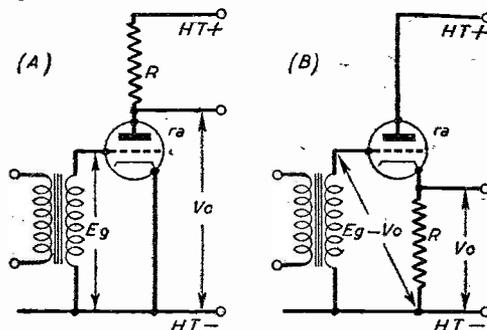

Fig. 1.—A, ordinary amplifying stage; B, cathode follower.
AN instructive experiment can be carried out very simply by changing the position of the load resistance R in an ordinary amplifying stage, Fig. 1 (A), and insert it in the cathode side of the valve as in (B).
Before considering reasons for this state of affairs, let us make one more experiment that demonstrates a very valuable property of the cathode follower, namely, its low internal impedance or *output impedance*. Referring first to Fig. 1 (A). This may represent an ordinary voltage-amplifying stage of high impedance, approximating to the A.C. resistance, r_a , of the valve. If we took various resistances of say, 10,000 ohms and upwards to represent "loads" connected to the output terminals of this stage, a very marked effect would be observed upon the stage gain and available output voltage. The experiment shows that if such a high impedance stage were coupled directly to a succeeding stage whose *grid-cathode* impedance is likely to become low at high frequencies, or due to grid-current, the output voltage would suffer accordingly.
It can also be shown that the grid-cathode *input impedance* of the cathode follower is high as compared with an ordinary stage, which makes it an ideal "separator" between a high impedance stage and one whose input impedance is likely to be low. A further point concerns *phase-reversal* of the output voltage, which does *not* occur in the cathode follower: During a positive half-cycle of grid signal, the cathode end of R will have a potential change, of positive sign with respect to - H.T. line, whereas in Fig. 1(A), the anode potential falls during the same interval.